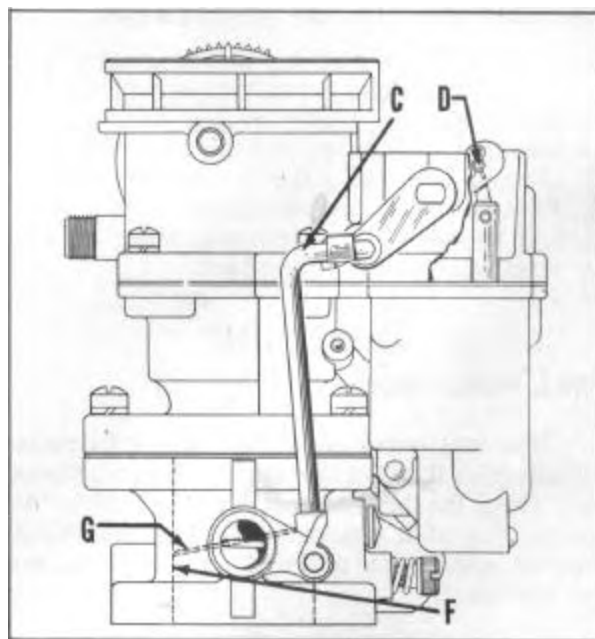

FIGURE 30
4. Adjust pump travel by bending the throttle connecting link at lower angle for WA1 carburetors and at the upper angle for WGD carburetors at (C), Figure 30.